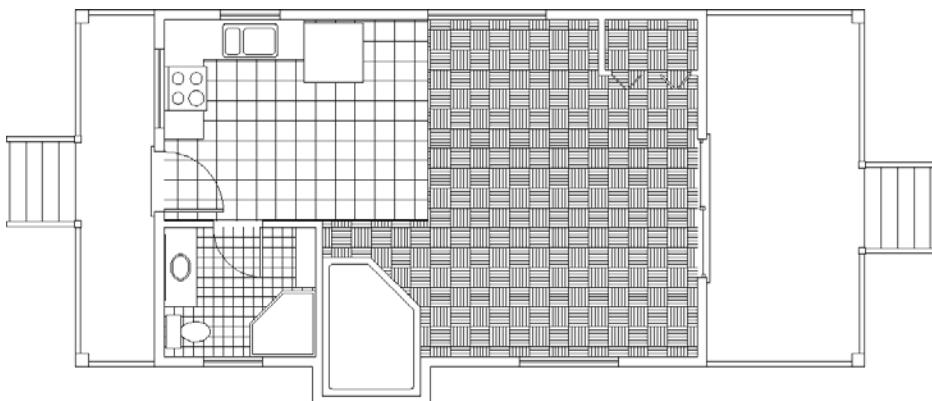

FIGURE 11.21 The parquet hatch with its initial scale of 1
6. Move your cursor back into the drawing area, and use the automatic preview to display what your hatch will look like when inserted into the drawing. As you can see in Figure 11.21, the squares look a little small.